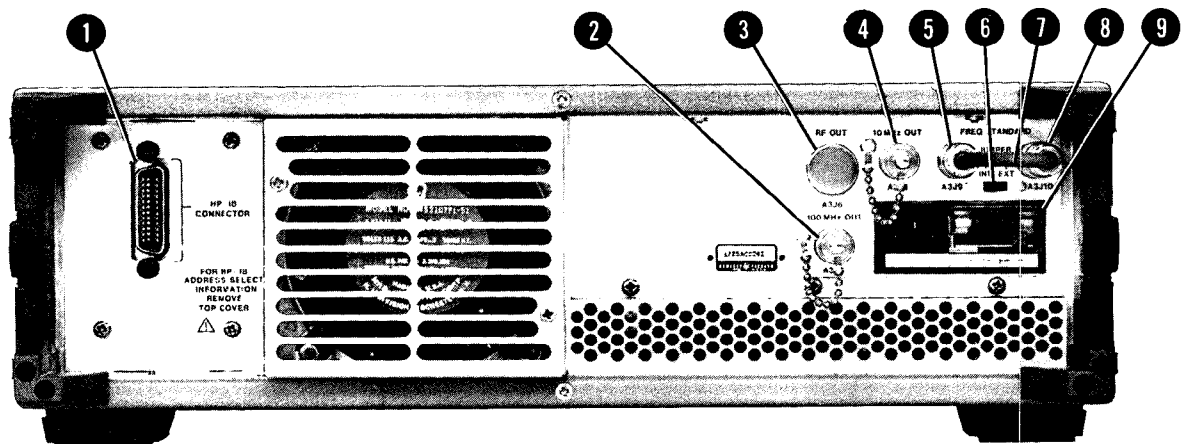

Figure 3-2. Rear Panel Connectors, Switches, and Displays
1. Check that the LINE switch **12** is in STANDBY and remove the power cable from the Line Power Module **9** (see Figure 3-2).
2. Check that Line Power Module **9** (see Figure 3-2) is set to the nominal line voltage to be used and that the fuse is the correct value and type.
1. On the rear panel (see Figure 3-2), remove Jumper **7** (A3W3) from the FREQ STANDARD EXT connector **8** (A3J10), and set the FREQ STANDARD INT/EXT switch **6** to EXT.